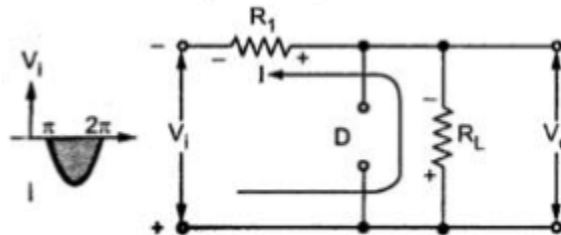

Fig. 1.60 Operation during negative half cycle
- The entire current flows through R_L as shown in the Fig. 1.60.